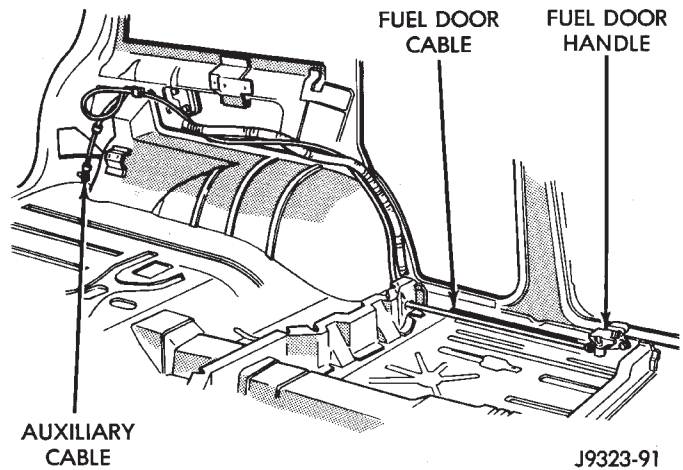

Fig. 41 Fuel Door Cable Routing
(6) Remove cable from routing clips along floor (Fig. 41).